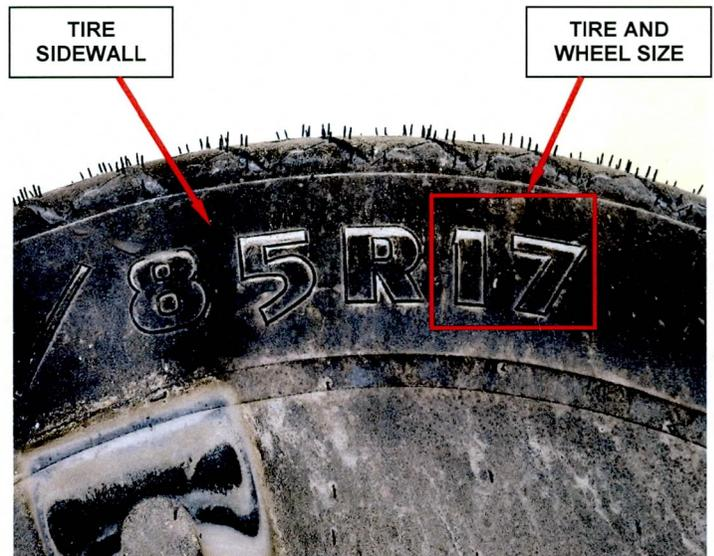

Figure 3 – Tire Size
9. Inspect the tire size located on the sidewall of the tire (Figure 3):